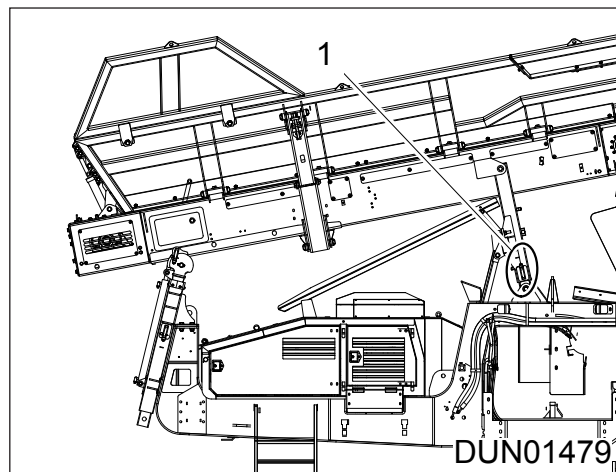

Figure 6.26 - Front Strut Pin
2. Remove pin (Item 1; Ref. Figure 6.26).